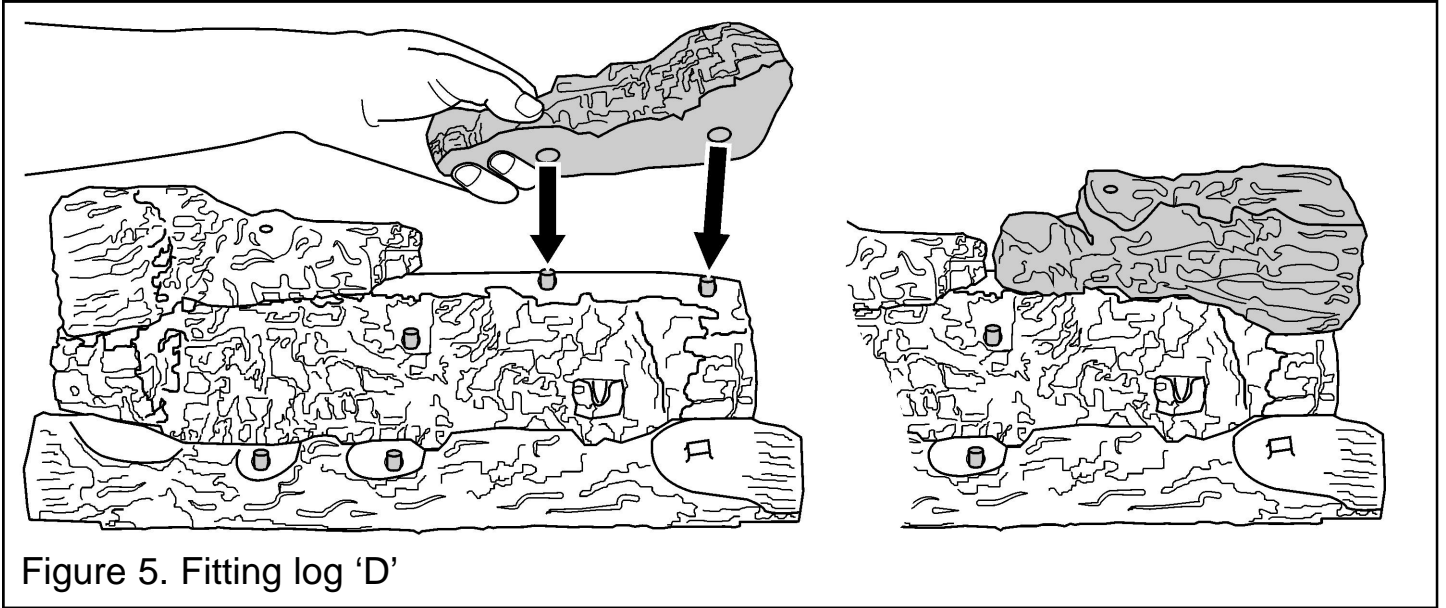

Figure 5. Fitting log 'D'
5. Remove log 'D' from its protective packaging and position it as shown in figure 5. Locate the holes in the base of log 'D' onto the pegs on top of the rear base log.